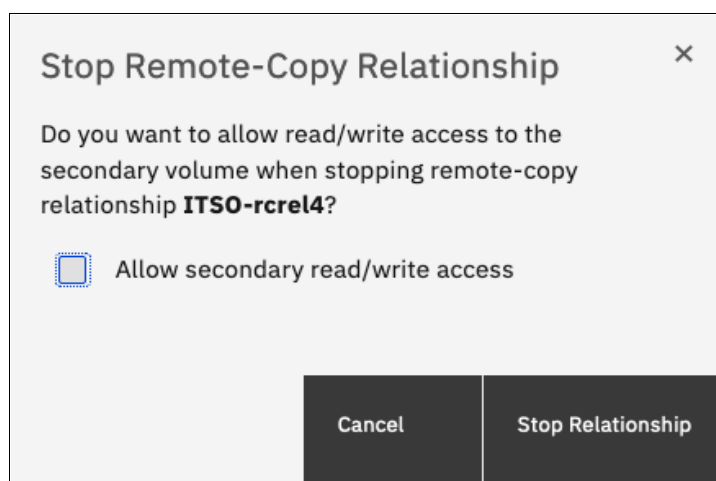

Figure 10-142 Grant access in read and write to the auxiliary volume
- When a RC relationship is stopped, access to the auxiliary volume can be changed so that it can be read and written by a host. A confirmation message is displayed, as shown in Figure 10-142.